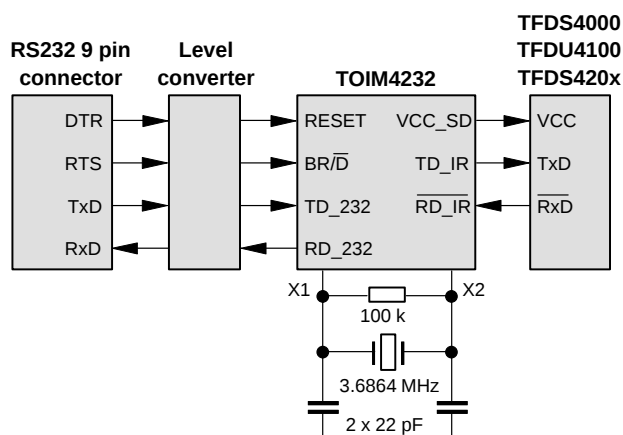

Figure 2. RS232 Port interface (external infrared adapter)
*) Crystal should be connected as shown in figure 2. In addition connect a 100 k Ω resistor from Pin 6 to Pin 7 and from Pin 6 and Pin 7 a 22 pF capacitor to ground, respectively. When an external clock is available connect it to Pin 6 leaving Pin 7 open.
Figure 2 shows a typical example of an RS232 port interface. The TOIM4232 connects to an RS232 level converter on one side, and an infrared transceiver on the other. The internal TOIM4232 baud rate generator can be software controlled.